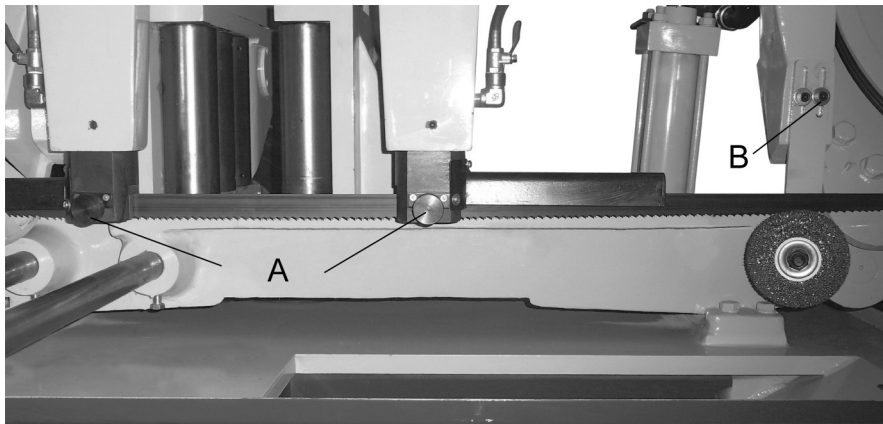
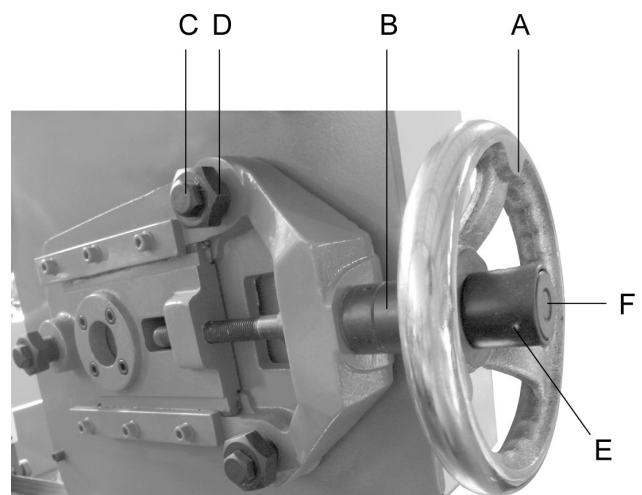

Fig. 4
Fig. 5
Blade tension has been preset in factory; therefore, before operating machine, tighten the screw (A), (B) Fig.4 clockwise till the blade is in 90° position and the brush to suitable height. Tension the blade by turning the hand wheel (A) Fig.5 clockwise until the slipping clutch slips consecutively. Please also check **[CHANGING SAW BLADE]** for more details. Be sure to finish above pre-setting before first use, or saw blade is not able to be sensed by the proximity switch, and electric circuit cannot be built.
Remove the saw covers for each side. Clean away all swarf from around the wheels and the blade guides. Release brush, the tension hand wheel and the screw (A), (B) Fig.4 by turning counterclockwise to slacken the blade guide carbides and remove the old blade. Position the new blade over the blade wheels ensuring that the teeth are cutting in the correct direction, i. e., towards the right hand end of the machine. Make sure that the back of the saw blade is against the wheel flanges and thread the blade into the carbide guides. Tighten the screw (A), (B) clockwise till the blade is in 90° position and the brush back to suitable height. Tension the blade by turning the hand wheel (A) Fig.5 clockwise until the slipping clutch slips at least twice consecutively.
Blade tension has been preset in factory; therefore, by turning hand wheel (A) in Fig. 5 clockwise till (B) portion slip then tension for the blade is reach. Please kindly note that one does not to press the hand wheel, simply turn it will do. For blade tracking, if the back of the blade is not against the wheel flange properly,
- Loosen the screw (C) in Fig.5
- Adjust screw (D) in Fig.5 until the blade is tracking properly.
- Tighten the screw (C).5